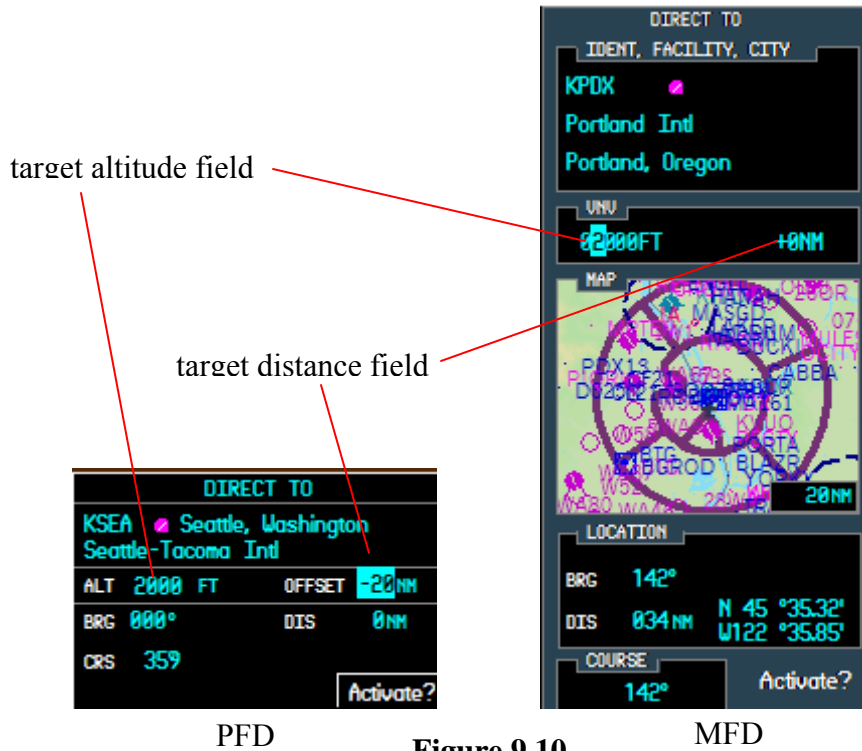

Figure 9.10
4. use the large fms knob to scroll the cursor to the target altitude field (Figure 9.10).